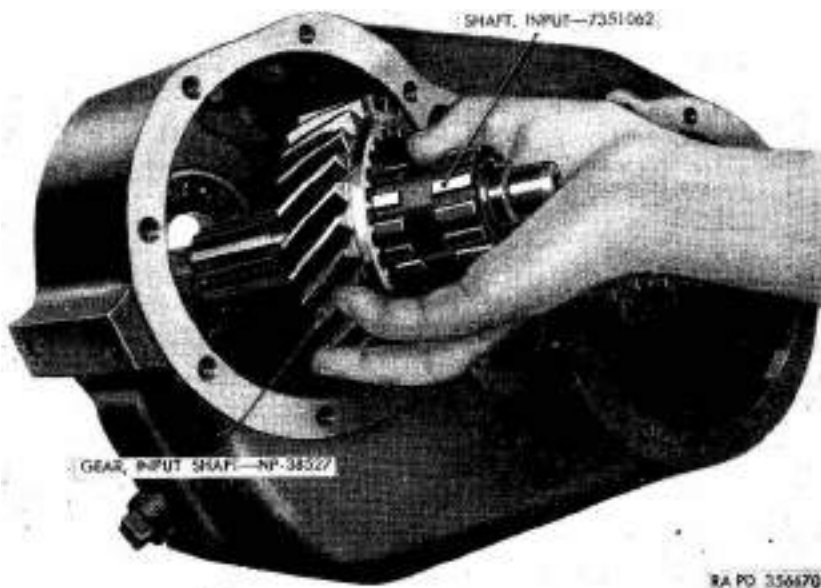

Figure 133. Removing input shaft and input shaft gear.
- (2) Remove 29/32 II), 13%,, OD, plain washer (AD) and companion flange (AE) from input shaft (BD). Exercise care to prevent shaft from slipping out of input shaft gear (AW).
- (3) Grasp input shaft and gear (fig. 133) and remove them from transfer case. Keep shaft, gear, and input shaft gear rollers (AX and AZ) together to avoid loss of rollers.
- (4) Perform the following disassembly procedure over a container to avoid the loss of rollers. Remove input shaft gear outer thrust washer (AV), gear, rollers, input shaft gear roller spacer (AY), and input shaft gear inner thrust washer (BC) from input shaft.